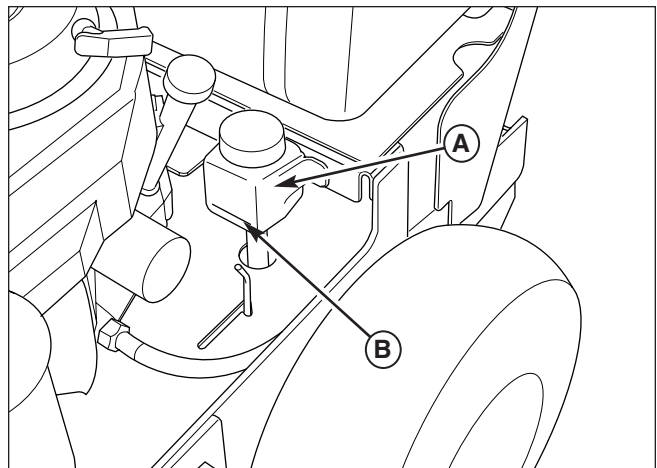

Figure 21. Transmission Oil Reservoir (LH Shown)
1. Check the oil level when the unit is cold. Locate the transmission oil reservoirs (A, Figure 21) located on the by the fuel tank. The oil should be up to the “FULL COLD” mark (B). If the oil is below this level, proceed to step 2.
3. Add oil up to the “FULL COLD” mark (B).